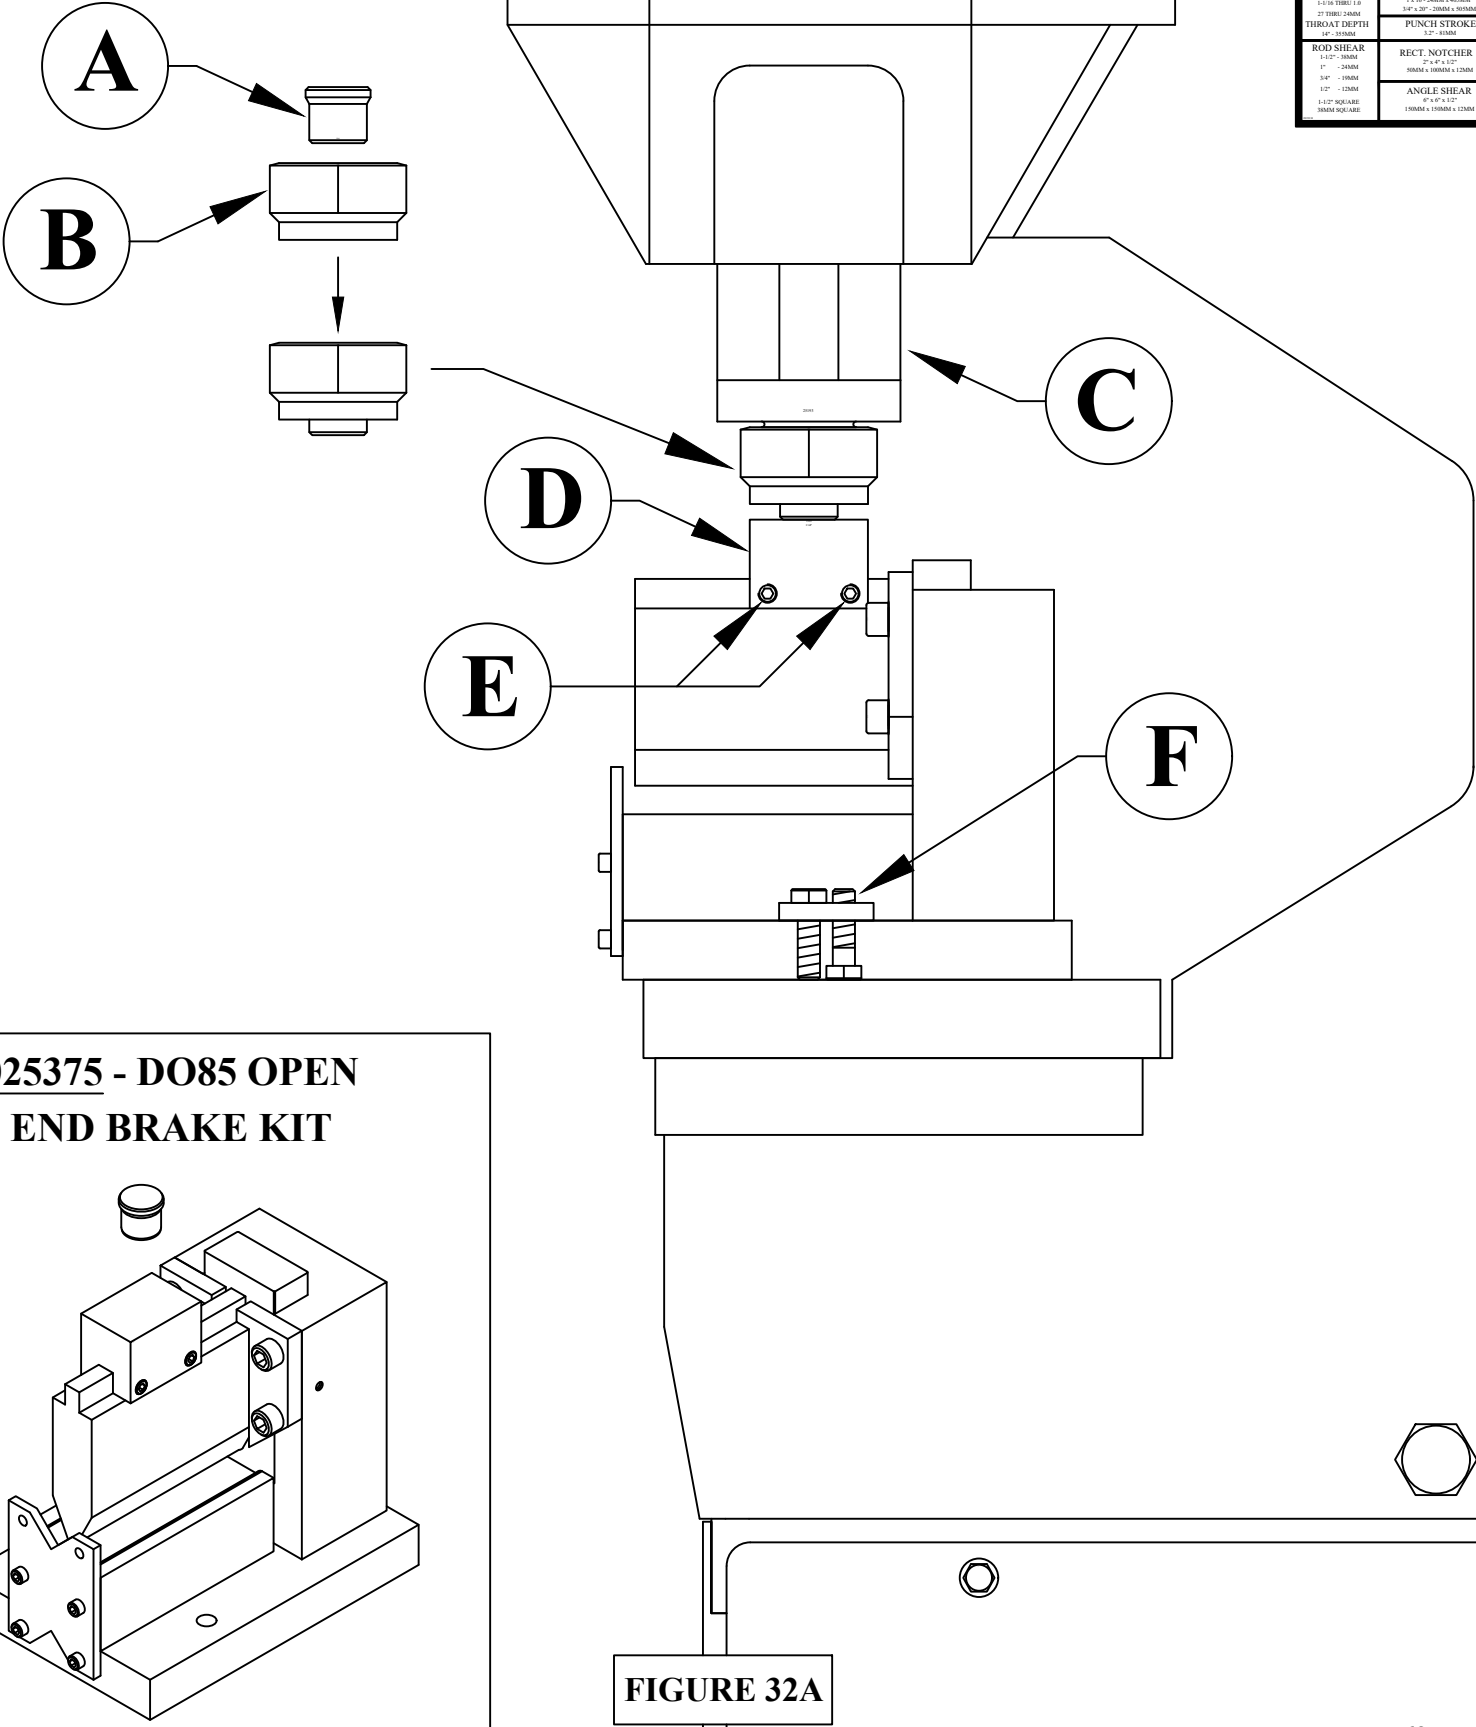

FIGURE 32A
SEE FIGURE 32A ON THE FOLLOWING PAGE.
This brake mounts in the punch station and the selector switch must be in the PUNCH position to operate this tool. The die holder, punch retaining nut and the stripper must be removed to install this tool. Put the pusher (A) in the punch retaining nut (B) and install on the punch ram (C). The pressure cap (D) mounts on top of the tool and held in place by two set screws (E). Mount the tool as shown in Figure 32A so that the pressure cap (D) is centered directly under the punch ram (C). Anchor the tool to the punch bed with the two M-16 bolts used in the punch station and finger clamps (F) provided.